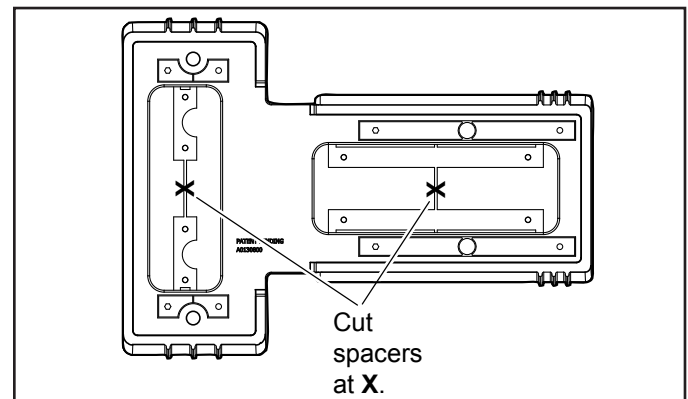
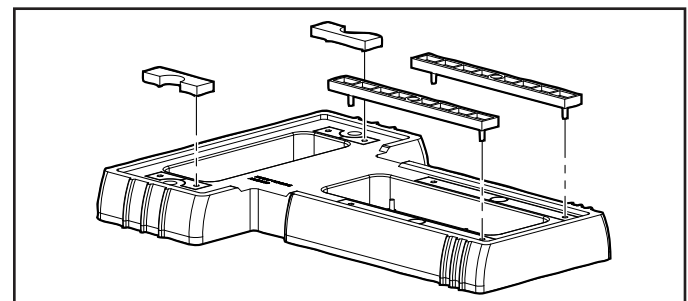

Figure 4. Cut Sets of Spacers Out of Base
Figure 5. Snap Spacers into Place
- Using a hand cutter tool, cut the plastic bars connecting the top and bottom sets of spacers, as shown in Figure 4.
- Push the two (2) top spacers and two (2) bottom spacers out of the base.
- Align the pins in the four (4) spacers with the holes in the base and snap the spacers into place, as shown in Figure 5.